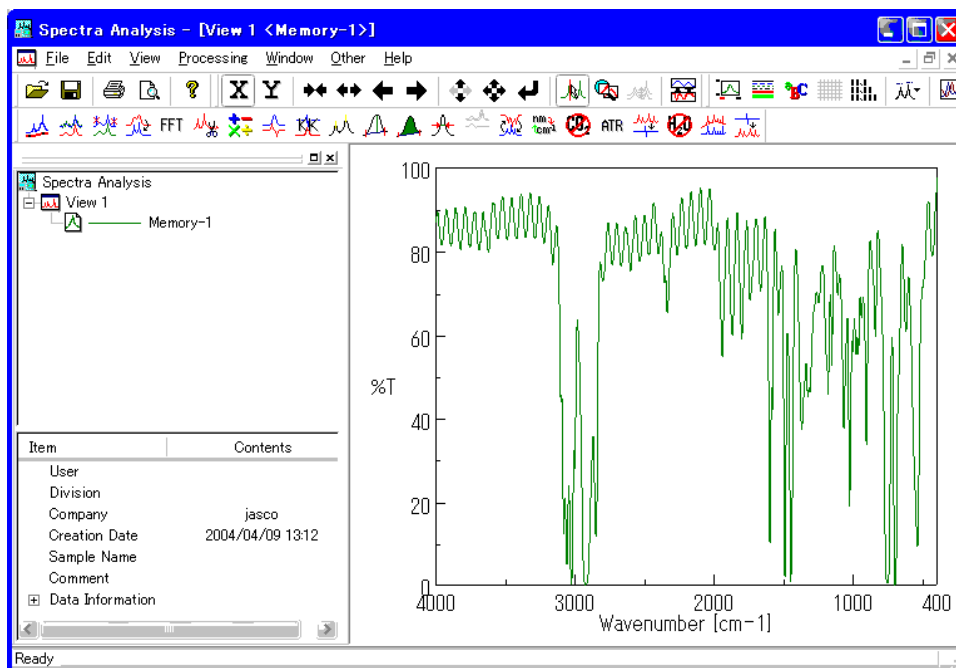

Fig.2.23 Spectra Analysis Program and View of Measurement Results
- (2) Select the [Information] tab in the [Monitor Sample] dialog, and enter **Polystyrene** as the [Sample] name. The comment can also be changed if desired.
- (3) Verify the preview of the spectrum profile and click the <OK> button to start measurement. A progress bar appears during measurement as for background measurement.
- (4) When measurement finishes, the Spectra Analysis program is started automatically and a window displaying the last spectrum measured opens. (Fig. 2.23) This window is called a View window. **View (Memory-1)** is displayed on the title bar because the measured spectrum is not yet saved to disk. If the measured spectrum did not automatically appear in the Spectra Analysis window, the [Send Data] check box in the [Data] parameters tab may not have been checked. Select [File]-[Send Data] from the main menu to transfer the spectrum to the Spectra Analysis program.